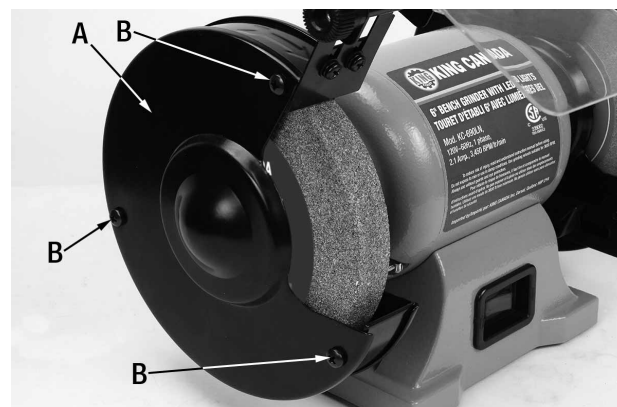

FIGURE 8
1. Remove the corresponding grinding wheel cover (A) Fig.8 by removing the long screws (B) and hex. nuts.
5. Reinstall the grinding wheel cover (A) Fig.8, and reposition the tool rest and spark shield assemblies if they were removed.